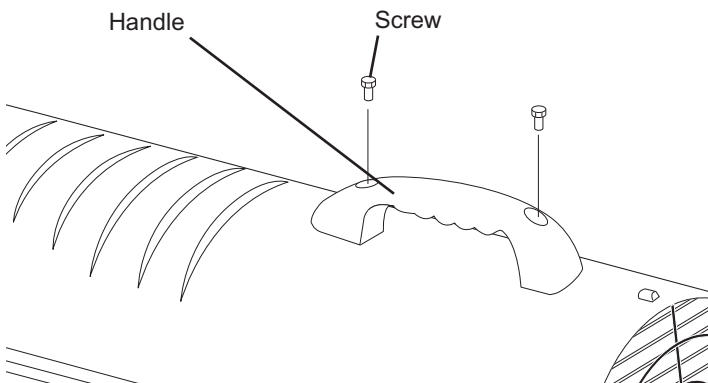

Figure 6. Handle Mounting, Models HH-45/70T-KFA
1. Align the holes in the upper housing with the 2 holes in the handle as shown in **Figure 6**.